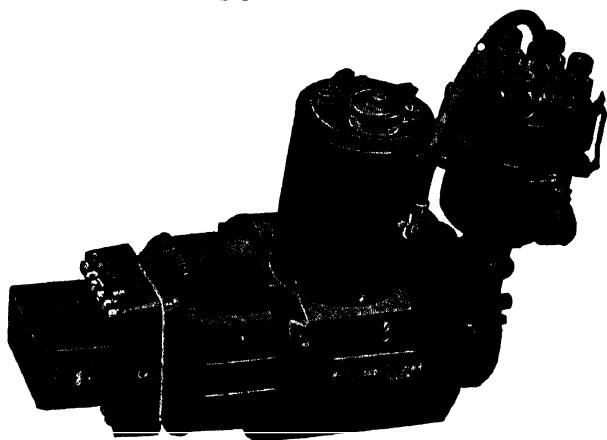

Fig. 309. Remy Ignition Generator and Distributor
**Generator.** Of the multipolar (four-pole) shunt-wound type of generator combined with ignition timer and distributor and designed to be driven at  $1\frac{1}{2}$  times crankshaft speed, several models are made, of which one is shown in Fig. 309. In this case, both the regulator for the generator and the battery cut-out are mounted directly on the generator. On some of the models only the regulator is so mounted, the cut-out being placed on the dash of the car, while on others no independent regulating device is required as the third-brush type of regulation is employed (on bipolar generator).